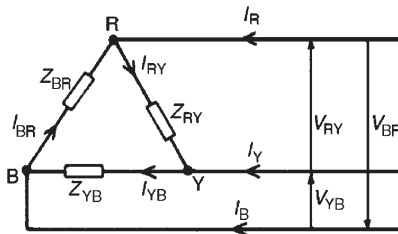
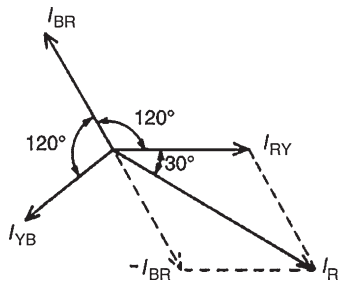

Figure 20.10
Figure 20.11
- (i) A **delta (or mesh) connected load** is shown in Fig. 20.10, where the end of one load is connected to the start of the next load.
- (ii) From Fig. 20.10, it can be seen that the line voltages  $V_{RY}$ ,  $V_{YB}$  and  $V_{BR}$  are the respective phase voltages, i.e. for a delta connection:
- (iii) Using Kirchhoff's current law in Fig. 20.10,  $I_R = I_{RY} - I_{BR} = I_{RY} + (-I_{BR})$ . From the phasor diagram shown in Fig. 20.11, by trigonometry or by measurement,  $I_R = \sqrt{3} I_{RY}$ , i.e. for a delta connection: